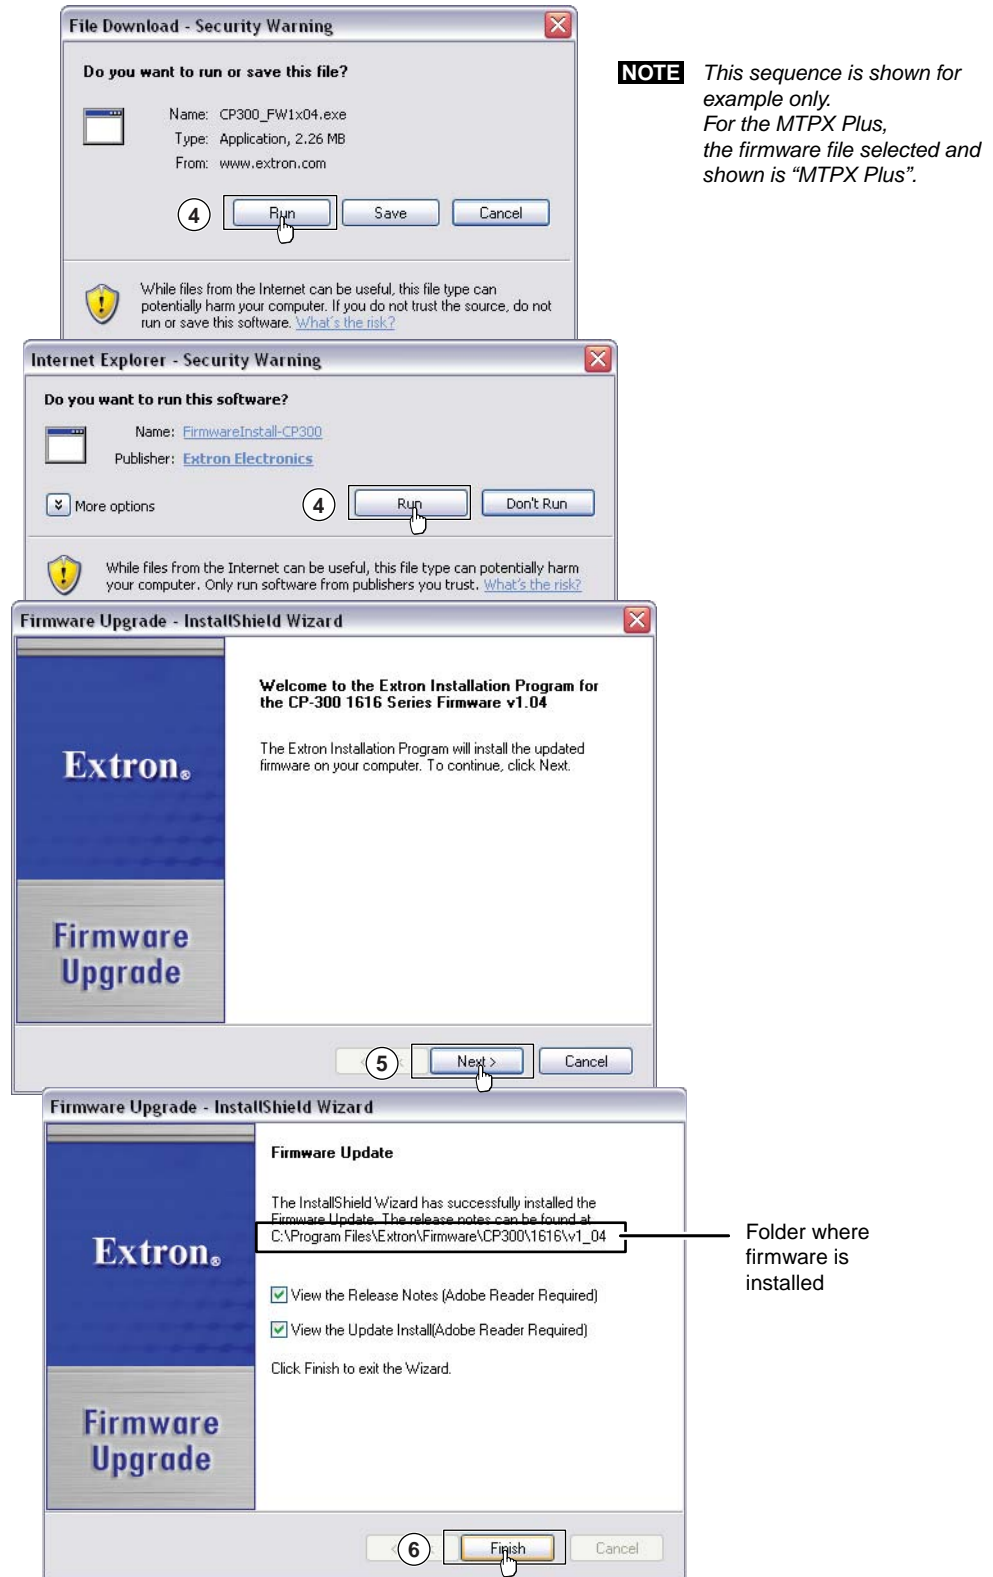

Figure 5-10 — Downloading firmware upgrade files
4. Click **Run** twice (figure 5-10 on the next page). The PC downloads the firmware update from the Extron Web site and starts the Extron Installation Program to extract the firmware file.